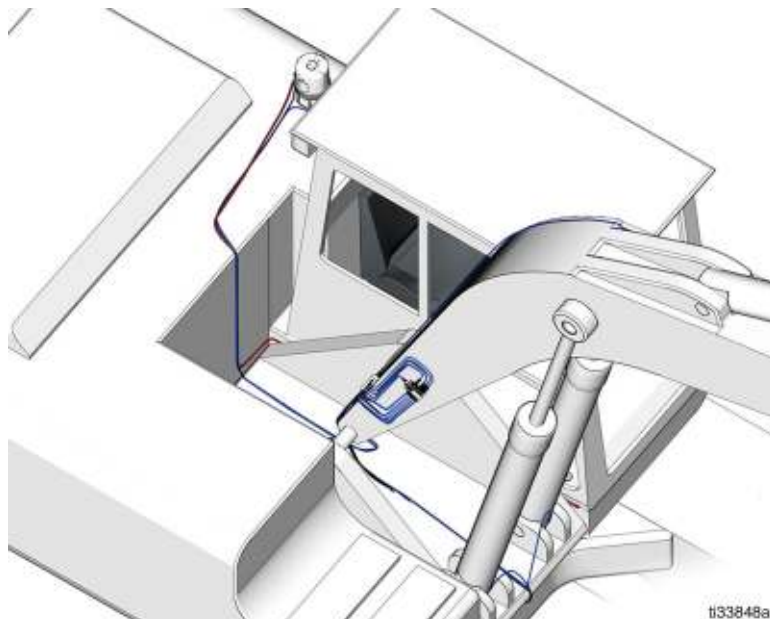
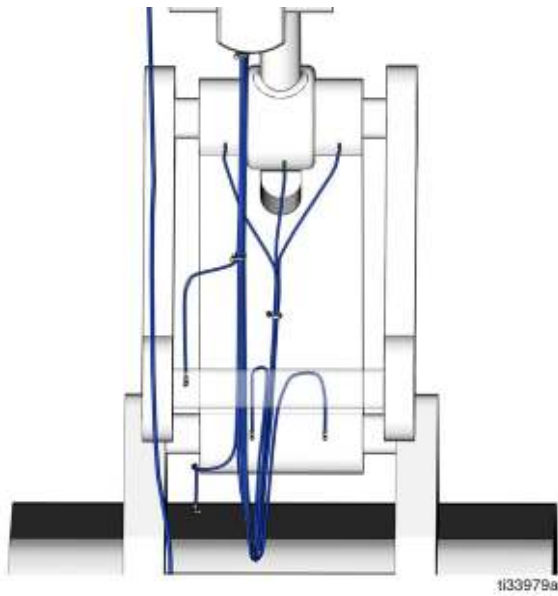

FIG. 18
FIG. 25: Bottom View
- See FIG. 18 through FIG. 25 for hose routing examples.